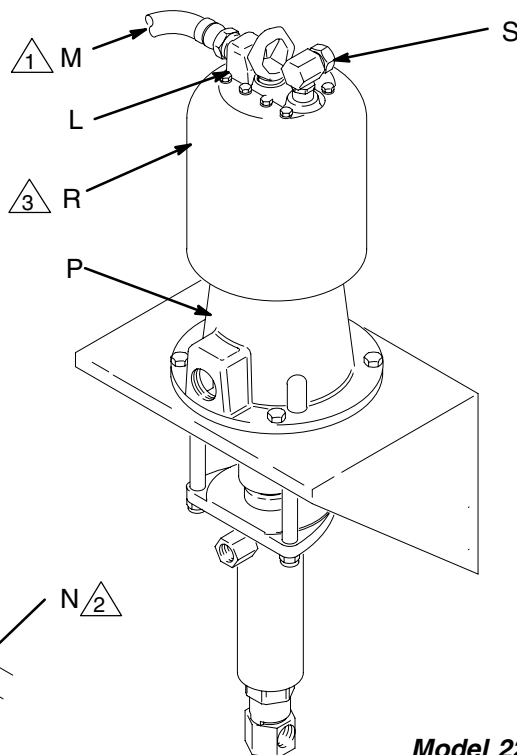

Fig. 1
1. See Fig. 1. The air line should be connected to the air motor inlet (S) with an electrically conductive flexible hose. Also, use flexible fluid outlet and suction hoses. Where possible, avoid using solid plumbing, which carries noise vibrations.
An auxiliary air exhaust line may be connected to Model 220571, for use in a header system. Remove the pipe plug (22, see the parts drawing) from the 1" npt(f) auxiliary air exhaust port (L) at the top of the motor. Connect a 1" npt(m) exhaust hose (M) to this port. The exhaust hose **must** slope downward, and the exhaust manifold (N) connection **must** be lower than the base of the motor (P), to prevent moisture from accumulating in the line and draining back into the motor. See Fig. 1.